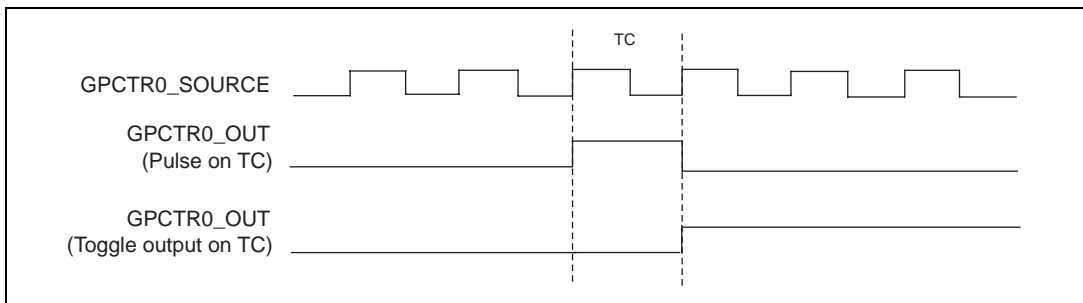

Figure 4-32. GPCTR0_OUT Signal Timing
This signal is available only as an output on the GPCTR0_OUT pin. The GPCTR0_OUT signal reflects the terminal count (TC) of general-purpose counter 0. You have two software-selectable output options—pulse on TC and toggle output polarity on TC. The output polarity is software selectable for both options. This output is set to tri-state at startup. Figure 4-32 shows the timing of the GPCTR0_OUT signal.